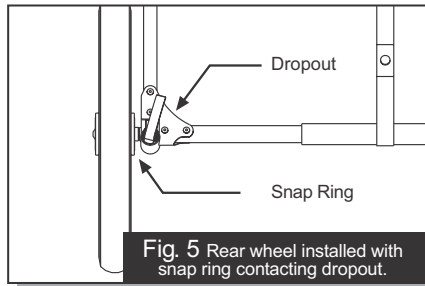
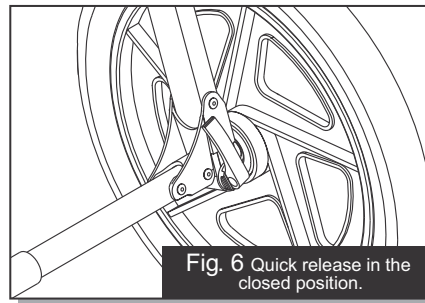

Fig. 5 Rear wheel installed with snap ring contacting dropout.
Fig. 6 Quick release in the closed position.
- 4 REAR WHEEL:** Place the rear wheel quick release lever in the open position, as shown in Fig. 4. Insert the rear wheel's stub axle into the hole in the rear dropout. If the axle does not slide in easily, loosen the quick release adjuster nut (Fig. 4) by hand. Re-insert the axle fully into the rear dropout until the snap ring on the axle comes in contact with the dropout (Fig. 5). Move the quick release lever to the closed position (Fig. 6). The word CLOSE should be clearly visible and the quick release lever should be pointing up towards the seat. When properly adjusted, it will require considerable pressure (80-105 inch/pounds) to close the lever. If you do not feel this resistance (too loose or too tight), return the quick release lever back to the open position (Fig. 4), and adjust the adjusting nut (clockwise to tighten, counterclockwise to loosen). Move the quick release lever to the closed position (Fig. 6). NOTE: Follow all